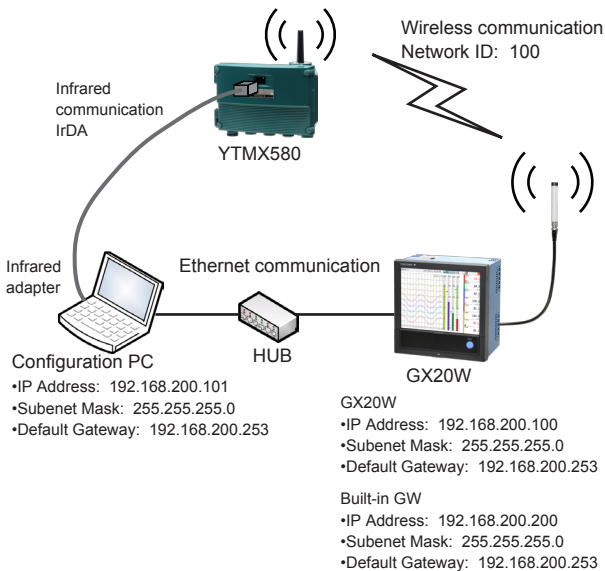

Figure 1
To explain the connection procedure, we will use an example of configuring a new system consisting of a single GX20W (wireless gateway; hereafter referred to as the built-in GW) and a single field wireless device (YTMX580), as shown in figure 1.
Prepare the devices shown in figure 1 and the software applications that you will be using, and decide on the setup conditions. (For details, see (1) Preparation in the setup procedure.)
To configure the network shown in figure 1, prepare the hardware and configuration software listed in table 1. First, in order to configure the field wireless network and Modbus communication, decide on the network ID (group number of the devices to connect wirelessly), the device tag of the field wireless device (YTMX580), network parameters for the Ethernet connection, and so on. In this guide, the connection setup example shown in table 3 will be configured.
Prepare a configuration PC, YTMX580, and infrared adapter as shown in figure 1.